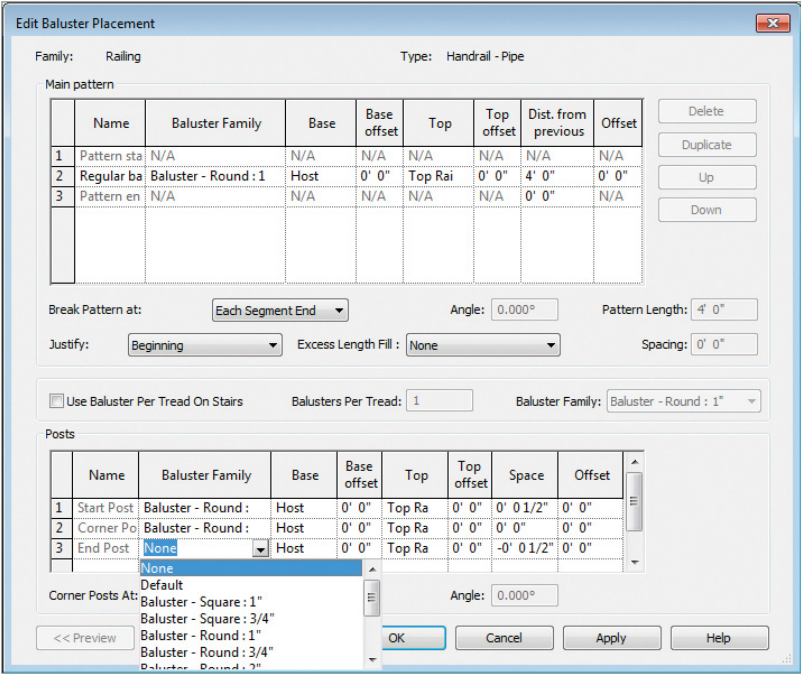

FIGURE 4.4 Edit Baluster Placement settings
- 3. In the Posts panel, set the Baluster Family value for the Start Post, Corner Post, and End Post To None parameters (as shown in Figure 4.4). This effectively eliminates any balusters from your railings.